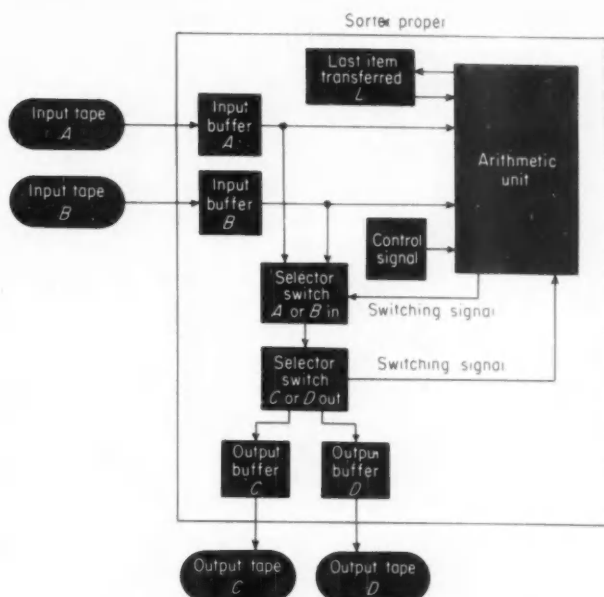

FIG. 5. Simplified block diagram of four-tape sorter.
Suppose an electronic sorter were designed as shown in Figure 5 to perform this merging-sort operation. Information would be transferred from two input tapes, A and B, into buffer registers in the machine. The number of digits which the buffers hold will then determine the length of the items which can be sorted conveniently. These buffers would feed directly into the arithmetic unit of the sorter, where the comparisons would be made. Two other inputs feeding into the arithmetic units would contain the last item transferred (L) and a set of control signals.
In operation, the sorter would feed these four signals to the arithmetic unit simultaneously, as shown in Figure 6. The three comparison circuits, operating in parallel, would simultaneously perform the three comparisons between A, B, and L. The control signals would provide an automatic extract (by means of opening and closing three gate circuits) which would allow only digits in the keys of A, B, and L to get through to the comparison circuits, the satellite information being ignored. For each comparison, one of two output lines would be energized; for example, $A \geq B$, or $A < B$. The same would be true for A and L, and B and L. The matrix (e.g., diodes) would decode which one of the six possible combinations existed; that is, only one of the six vertical lines would be energized (would have a signal on each of its three matrix connections), and this line in turn would energize the desired action. Thus, as soon as the three keys had been compared, proper action would be determined almost immediately. These output signals would then be fed to switching circuits, shown in Figure 5, to determine whether A or B is to be transferred, and whether it is to go to the same or the other output tape.